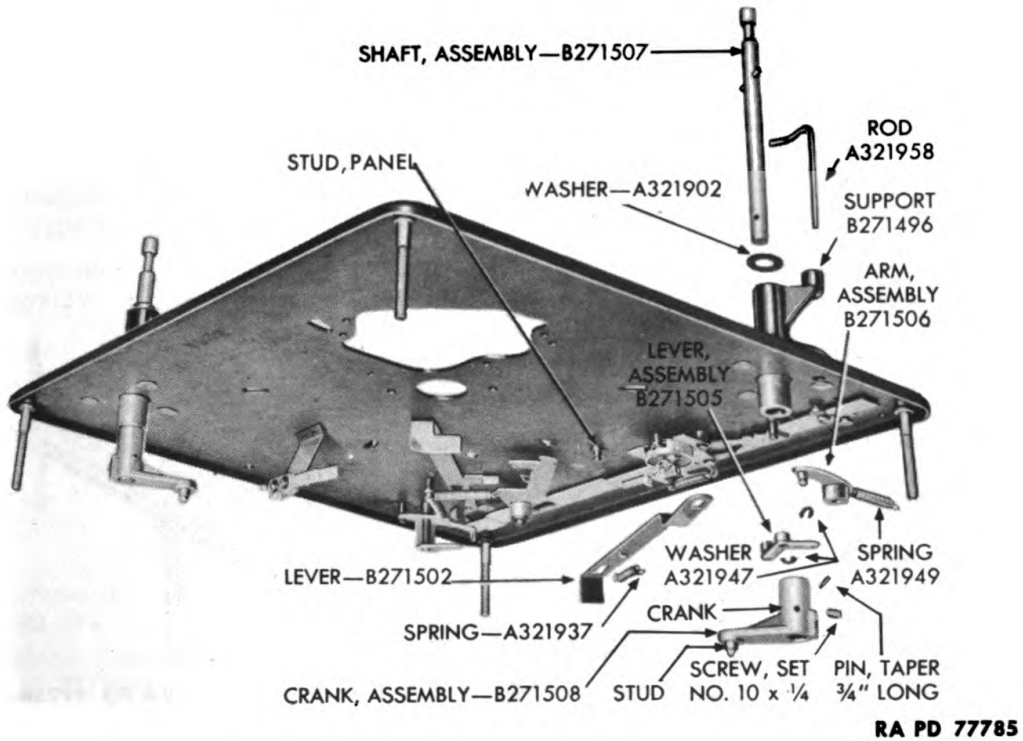

Figure 68 — Removal of Selector Shaft and Related Parts From Record Changer
(13) The selector shaft assembly (fig. 68) is removed from the crank assembly by removing the set screw and the taper pin. Remove the U-washer from the stud on the arm assembly and the U-shaped washer from the stud in the panel assembly. Slip the ends of the spring A321949 from their connecting holes in the arm assembly and the lever assembly. The lever assembly can be pulled from its panel stud and the arm assembly may be separated from the rod by loosening the set screw in the arm assembly. Remove the spring A321937